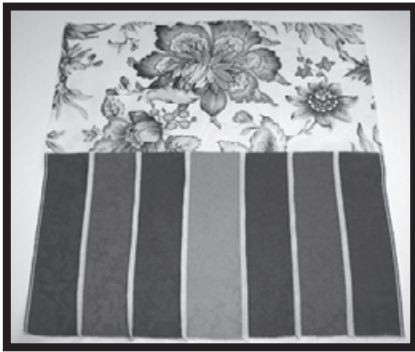

Fig. 3
7. With right sides together, serge one 8-1/2" x 16-1/2" outside top piece to one of the outside base sections. Press the seam. Repeat for the second half. **(Fig. 3)**